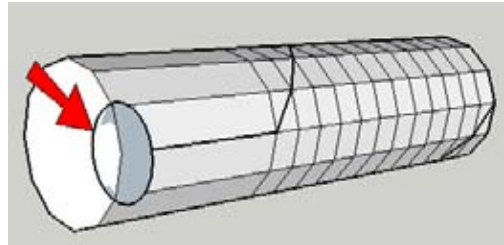

Figure 2-96
- Orbit back to the beginning of the first, long segment you traced. Using the starting end of this segment as the center point, draw a vertical circle as your Follow Me face, as shown in Figure 2-96.